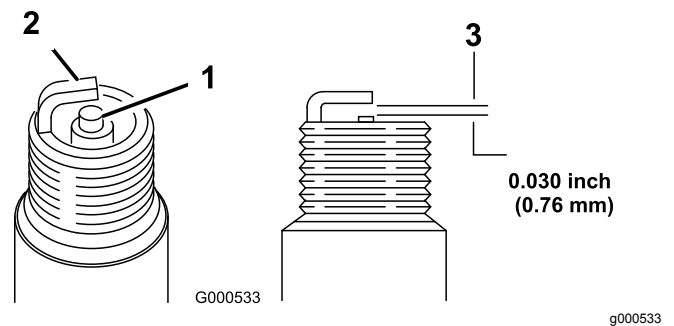

Figure 19
5. Set the gap on the plug to 0.76 mm (0.030 inch) as shown in Figure 19.